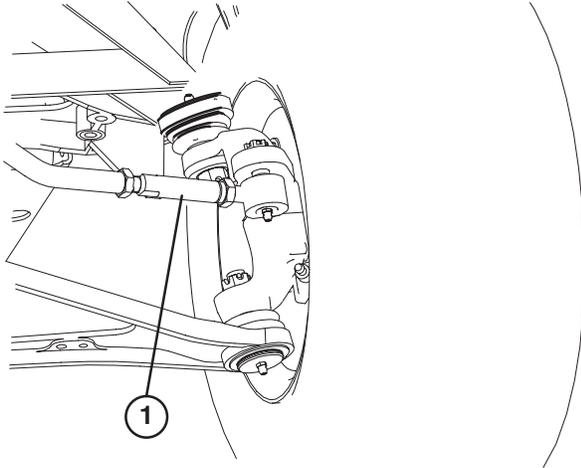

Figure 71
- On the left front wheel, loosen the jam nuts at both ends of the turn buckle (Fig. 71).